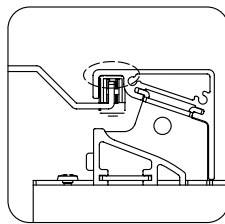

Fig.9-3
| Friction between the door bracket ③ and the inner top of the upper rail ① (Fig. 9-3). | | ⇒ | Check the fixing position of the door brackets ③ . | Reinstall door brackets in their proper position. | 3,7 |